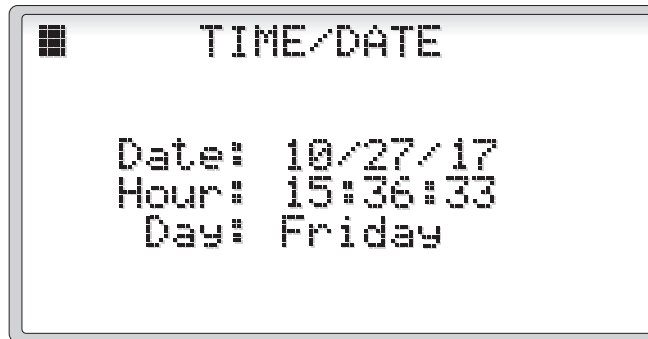

Figure 9
2.3.2.1 Time Settings (Figure 9)